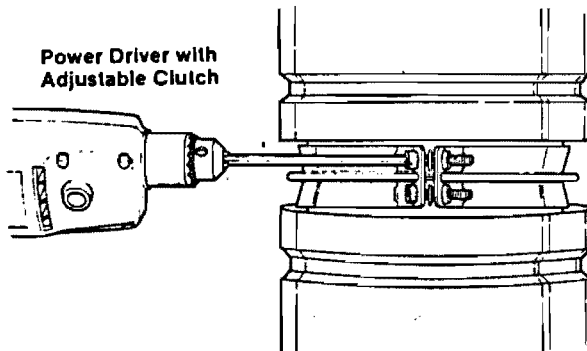

FIGURE 7 Basic Assembly Step 4: Tighten Containment Band fasteners using alternating pattern.
4. Make sure both inner wall flanges are inside the Containment Band V-groove. Now completely seat the band by tightening down the fasteners in small steps (Figure 7). Tighten in an alternating pattern, and tap on the band with the mallet after each tightening cycle to help seat the band completely and evenly around the joint.